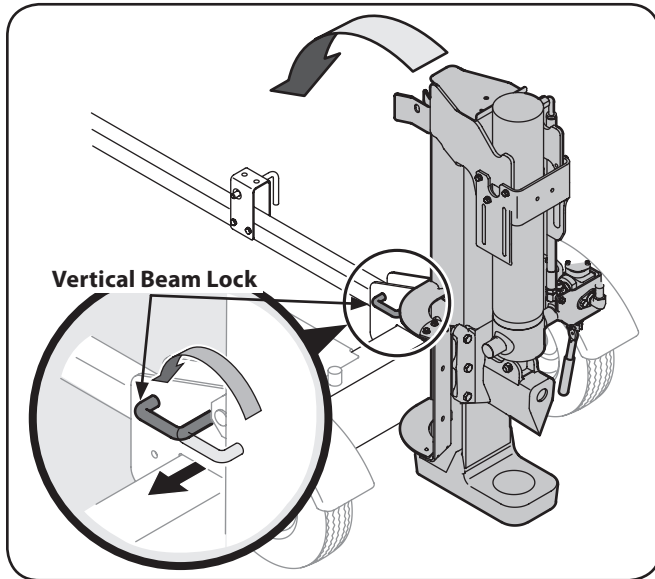

Figure 3-3
- Pull out the vertical beam lock, rotate it back, and pivot the beam to the horizontal position until it locks being sure to avoid any possible pinch points. See Figure 3-3.